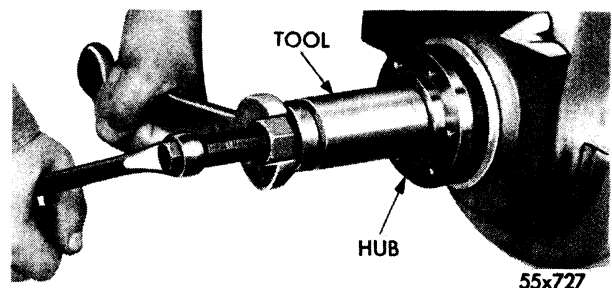

Fig. 85—Installing Hub
- (4) Insert the hub key in slot in the crankshaft. Position a new dust seal in the hub and position hub on the crankshaft.
- (5) Place installing tool (part of puller set, Tool C-3033) in position and press on hub, as shown in Figure 85.
- (6) Remove tool and install the damper and pulley to hub.
- (7) Install washer and retaining nut. Tighten to 135 foot-pounds torque.
- (8) Reinstall cooling fan, water pump housing, shroud, radiator, etc.
- (9) Refill cooling system, start engine and warm up to 160 degrees F., and check for leaks.